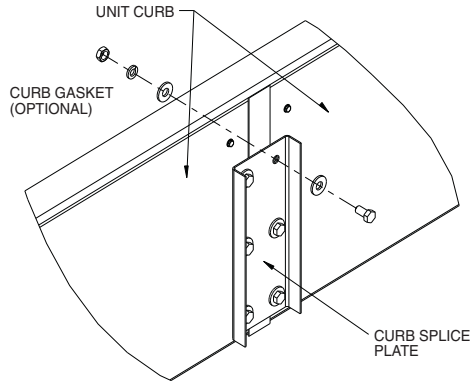

Fig. 20 — Splice Plate Usage
1. Curbs greater than 12 ft in airway length will be split and joined together by a splice plate. Butt the two sections and bolt together with the splice plate as shown in Fig. 20.